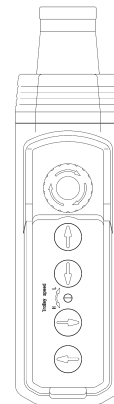

Figure 4-1 4 Button Pendant Control
4.3.1 Pendant Control - When using the pendant control depress the Up button to raise the hoist's hook or the Down button to lower the hoist's hook as shown in Figure 4-1. Depress the Left and Right buttons to move the trolley horizontally. To stop motion release the buttons.